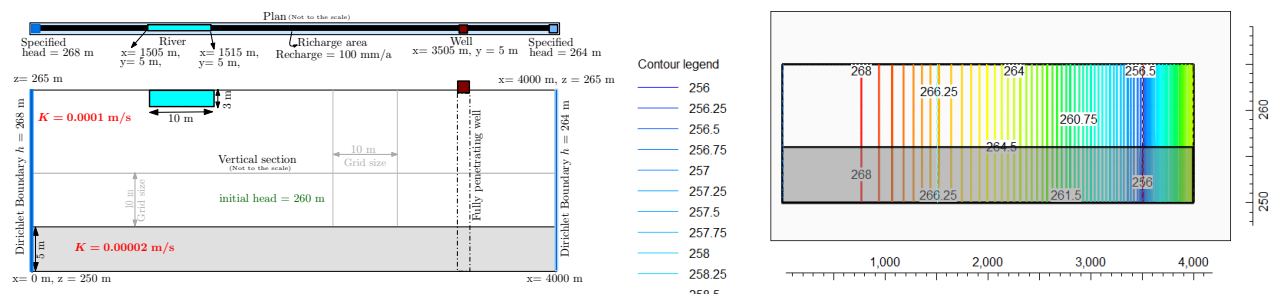

Figure 5: Left: The model domain with a river and a well, and Right: resulting hydraulic head isolines displaying the combined influence of river and a well
- check hydraulic head isolines - the resulting plot should appear as in Figure 5